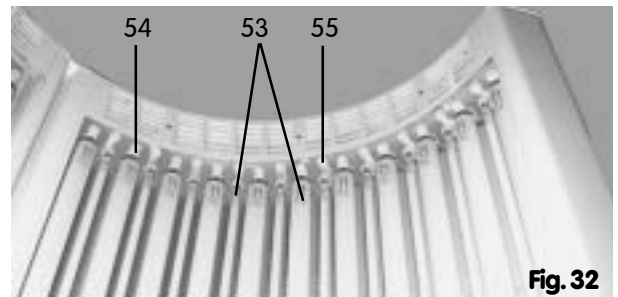

Fig. 32
Starters (55) are located at the upper ends of the tubes and are removed/inserted by turning them 90° and out of their sockets. Fig. 32.